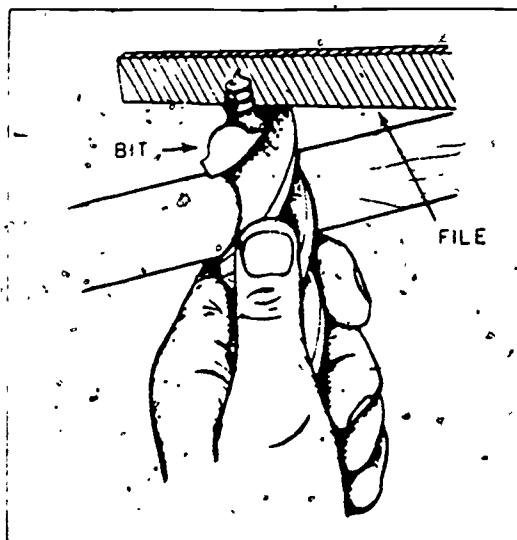

Figure 3-10 Sharpening the nibs of an auger bit.
**Auger bits.** Auger bits are the tools that are placed in the chuck of a brace to do the drilling. They are available in sizes from 1/4 inch to 1 inch. The point of the bit is designed with a spur, nibs, and lips. The nibs score the circle and cut the fibers as the bit is turned. The lips act as small chisels which shave the wood and scoop the shavings into the twist. The spur feeds or pulls the bit into the wood. Often the nibs and lips become dull. These may be sharpened with a special auger bit file. To sharpen the nibs, hold the auger bit against a solid surface, as shown in figure 3-10, and lightly file the cutting edges on the nibs on the inside only. Do not file off any more material from the nibs than is necessary to get them sharp. Stop filing when a fine bur appears on the cutting edge. Remove the spur from the nibs with a light touch of the file.